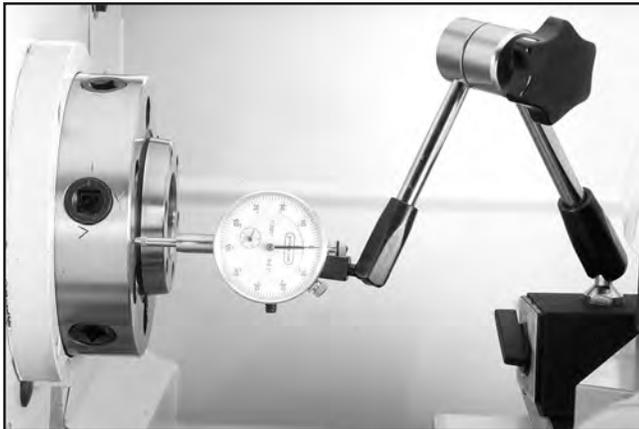

Figure 123. Example of dial indicator setup.
- Place a dial indicator on cross slide and move carriage toward headstock until contact point of indicator touches spindle face, as shown in **Figure 123**.